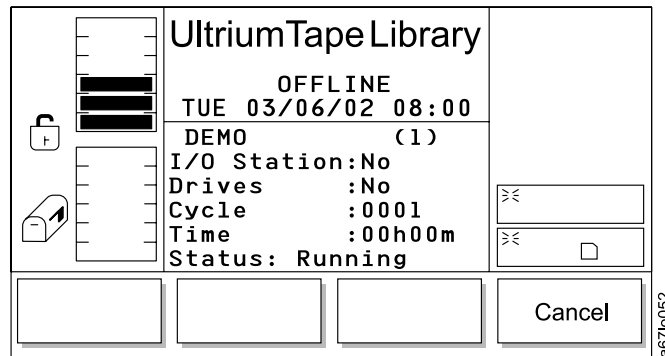

Figure 183. Demo Execution screen
- If **OK** is selected, the field values are applied, and the Demo operation starts (see Figure 183 on page 145).